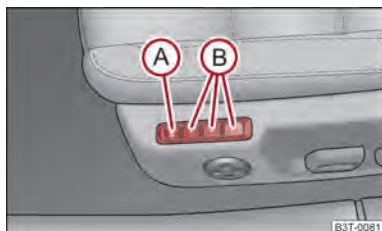

Fig. 58 Driver seat: Memory buttons and SET button
- Press button **SET** (A) ⇒ fig. 58.
- Press one of the memory buttons (B) within 10 seconds after pressing the button **SET** - an acknowledgement signal confirms that the seat setting is stored..
Memory for the seat offers the possibility to store the individual driver seat and external mirror position. An individual position can be allocated to each of the three memory buttons (B) ⇒ fig. 58, that is three in total. After pressing the corresponding memory button (B), the seat and the exterior mirror are automatically moved into the positions which have been allocated to this button ⇒ page 75.
- **By pressing briefly:** briefly press the desired memory button (B) → fig. 58. The seat and exterior mirror are moved automatically into the stored positions (this applies only if the ignition is switched on and the speed is less than 5 km/h).
- **Memory keying:** Press and hold the desired memory button (B) pressed long enough until the seat and the exterior mirror are moved into the stored positions.